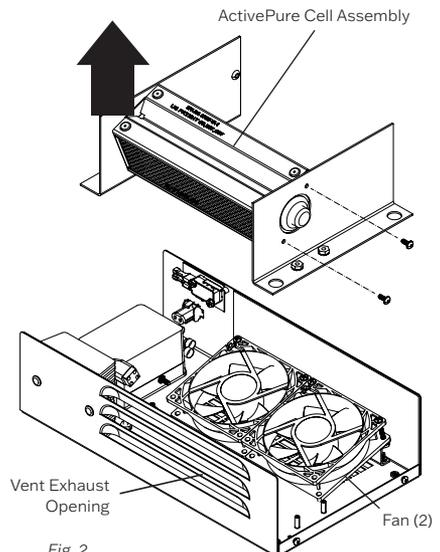

Fig. 2
3. Unplug 4-pin connector from the ActivePure Cell Assembly (red & blue leads). See Fig. 2
4. Remove four (4) nuts from the ActivePure Cell Assembly brackets and remove the ActivePure Cell. See Fig. 2